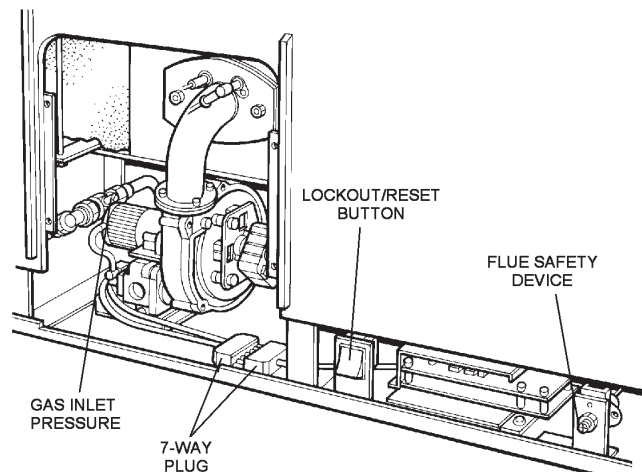

Fig. 2A
SEE FIG. 2A
4. Disconnect the terminal plug. (See Fig. 2A)